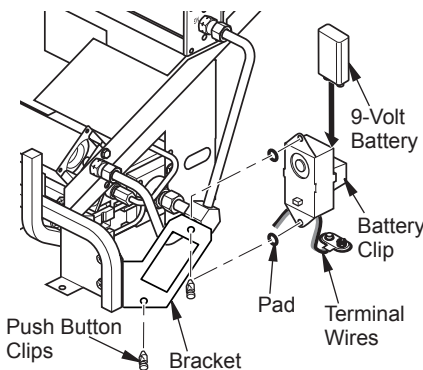

Figure 22 - Installing Remote Receiver
- Install remote receiver into receiver bracket using pads and push button clips provided with receiver (see Figure 22).
- Locate the battery clip mounted on the back of the receiver (see Figure 22).